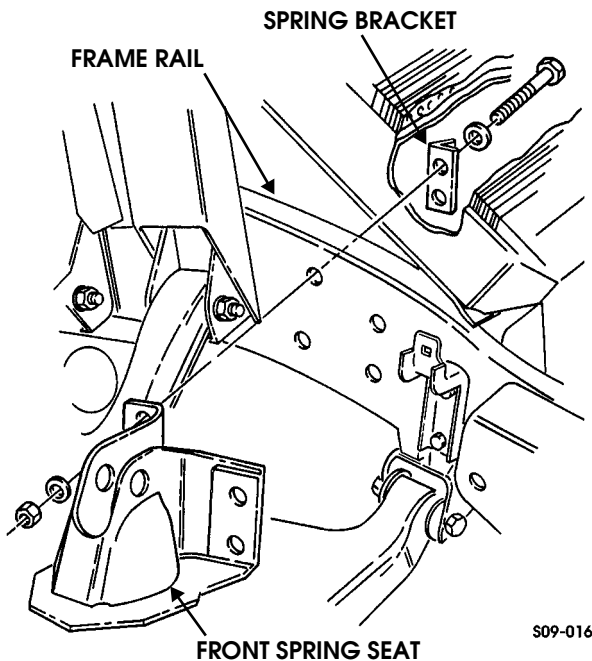

Figure 9-135: Front Spring Seat Replacement
2. Remove four locknuts, washers, bolts, spring bracket, and front spring seat from frame rail (Figure 9-135).
1. Install spring bracket and front spring seat on frame rail with four washers, bolts, washers, and locknuts. Tighten locknuts to 261 lb-ft (354 N•m) (Figure 9-135).